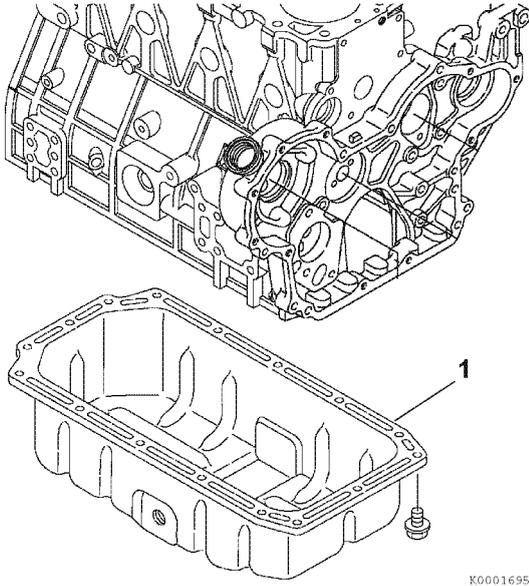

Figure 6-50
2. Remove the oil pan (1, **Figure 6-50**).